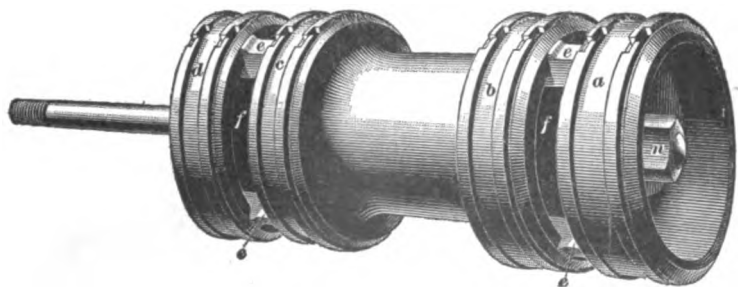
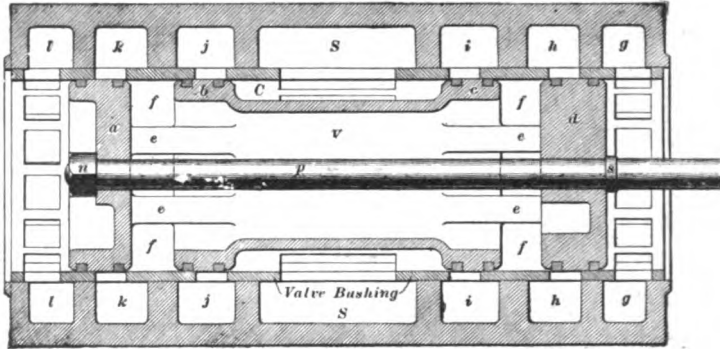

FIG. 4.
FIG. 5.
is given in Fig. 4, Fig. 5 being a cross-sectional view of the valve in the valve chamber, showing the interior of the valve and the cavities in the casting surrounding the valve bush. As will be seen, the valve is fitted with two pairs of cast-iron packing rings at either end, which constitute the edges of the valve. The rings on the outer heads  $a$  and  $d$  control the admission of
steam to, and the exhaust of steam from, the high-pressure cylinder, while the rings on the heads *b* and *c* perform the same duties for the low-pressure cylinder. The two end heads *a* and *d*, Fig. 5, are made solid, while the two inner heads *b* and *c*, together with that part of the valve between them, are hollow
**36. Broken Main Rod.**—In the event of a main rod breaking, place the steam valve on that side in the center of the valve seat, as in Fig. 5—in which position all the ports are covered—and clamp it there, remove the broken rod, and securely clamp the crosshead; then run in with the other side. In engines having the direct valve gear, in which the valve stem is connected to a small crosshead, the valve will be properly placed if this crosshead is blocked so as to be in the center of the guides.